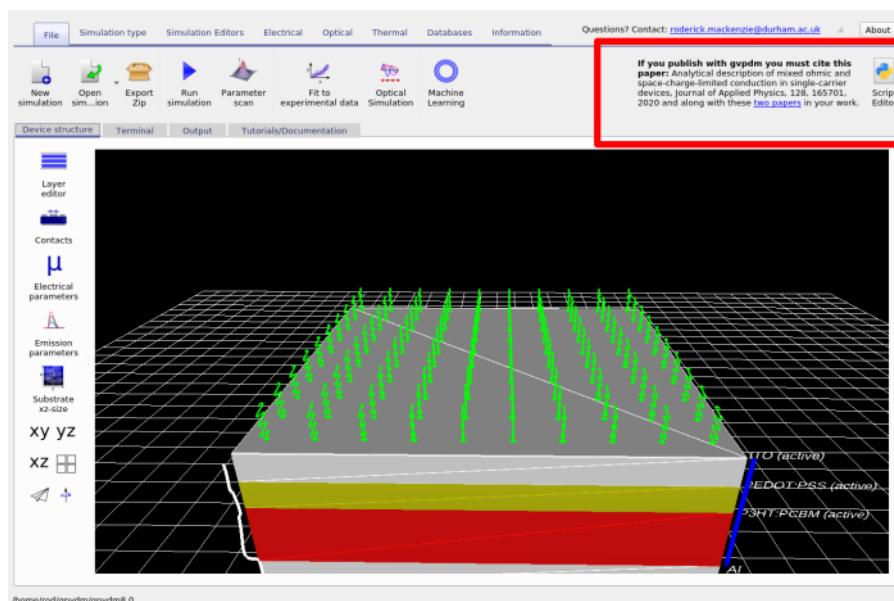

Figure 1.3: If you click on the area indicated by the red box, the model will tell you which papers should be cited.
2. If you publish a book, paper or thesis where gpvdm has been used you must cite at least three papers associated with the model. To find out which papers to cite, click on the area indicated in red in figure 1.3 when using the model. You are free to choose which papers to cite but PLEASE do not cite the manual. I can't include the manual in paper lists when applying for funding.